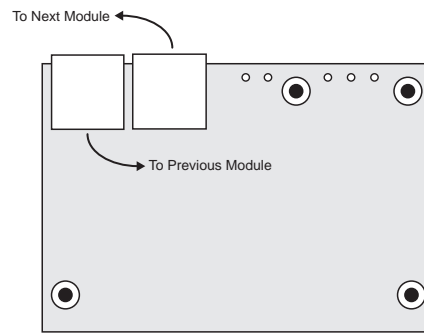

Figure 18.22 Panel Module Controller (PMC) — Module Control Link Connectors
6. Disconnect the Module Control Link **Cables** from the module you want to remove (**Figure 18.22**). This CAT5 (TIA/EIA-568-B) cable delivers all the command signals to and from the module, as well as other modules in the same row.